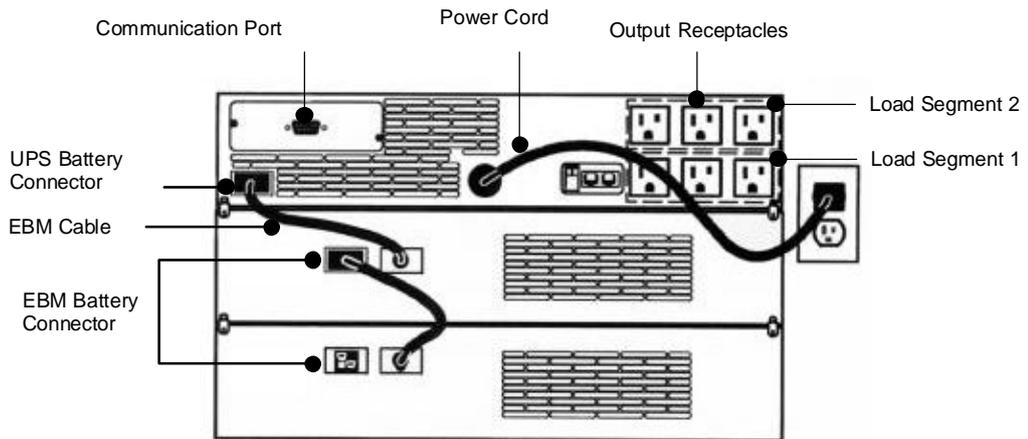

Figure 9. Typical UPS Installation
The following steps explain how to install the UPS. Figure 9 shows a typical installation only. See “3-3 UPS Rear Panels” on page 11 for the rear panel of each model.
- Plug the EBM cable into the battery connector on the UPS rear panel (see Figure 9).